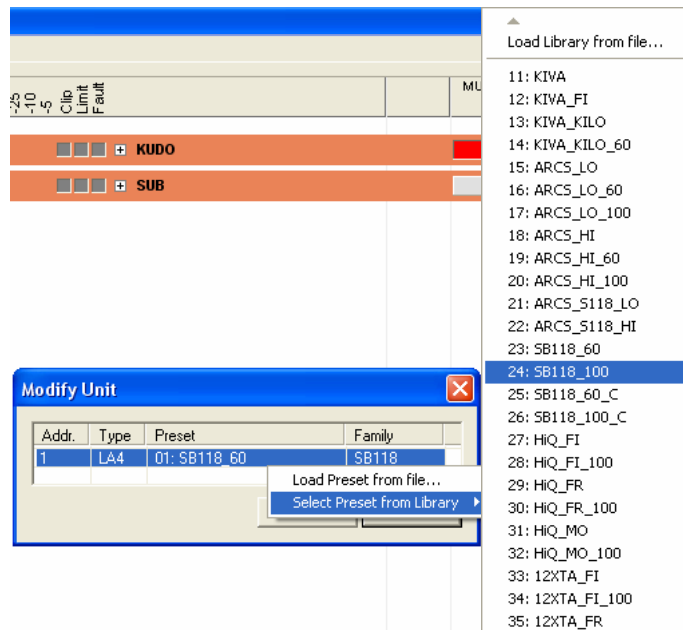

Figure 15: Selecting a Preset from the LA4 Library
- Left click on this function. The new window (Figure 15) prompts the user to select the IP Address, Unit Type, and Current Preset:
- Left click on this function. In the new window (Figure 15) the user can modify the IP Address, Unit Type, and/or Current Preset: